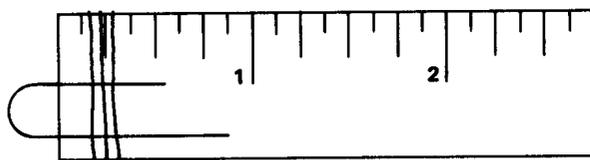

Figure 6-21
1. Shape the paper clip in the form of a hook. Place it over one end of the ruler and attach it firmly with a rubber band. Leave a small loop at the end of the ruler (Fig. 6-21).